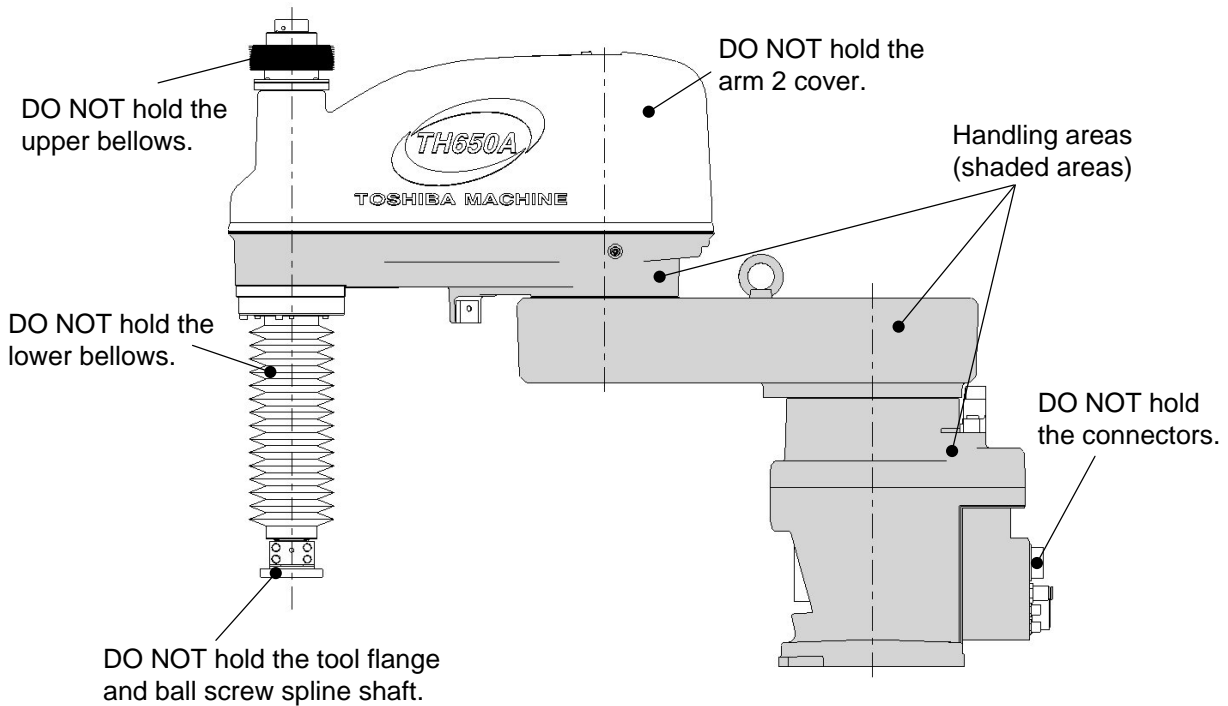

Fig. 2.4 Robot handling prohibited areas
- When lifting up the robot by workers, hold the shaded locations by hands, as shown in Fig. 2.4. If the ball screw spline shaft is held by hands, an unusually large force is exerted, resulting in a malfunction.
- The work should always be performed by two (2) or more workers.